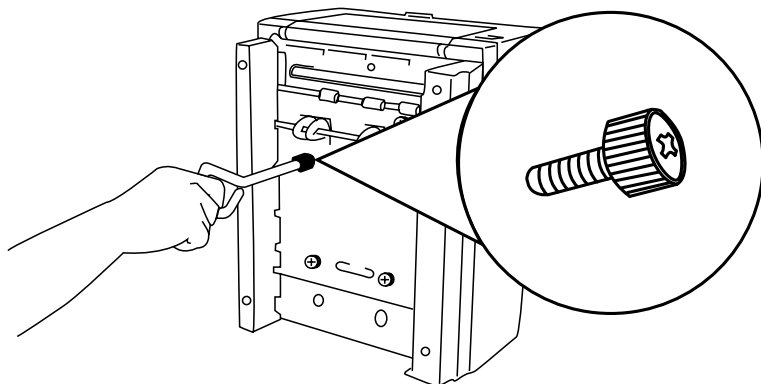

Fig. 4.5 *Fasten Feeder to Printer Bottom*
6. Place the printer back in its normal orientation and verify that the feeder tray is securely installed on the printer. Make sure that there is no gap between the feeder and printer, and that the feeder is not loose (fig. 4.5).